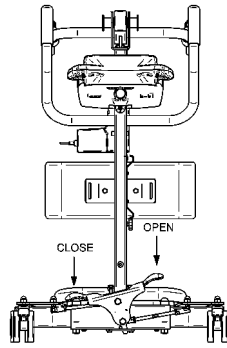

Fig. 2
- **Pedal base :** The adjustments are made by changing the position of the pedal. Press down the left side of the pedal will close the legs. Press down the right side of the pedal will open the legs (Fig. 2).